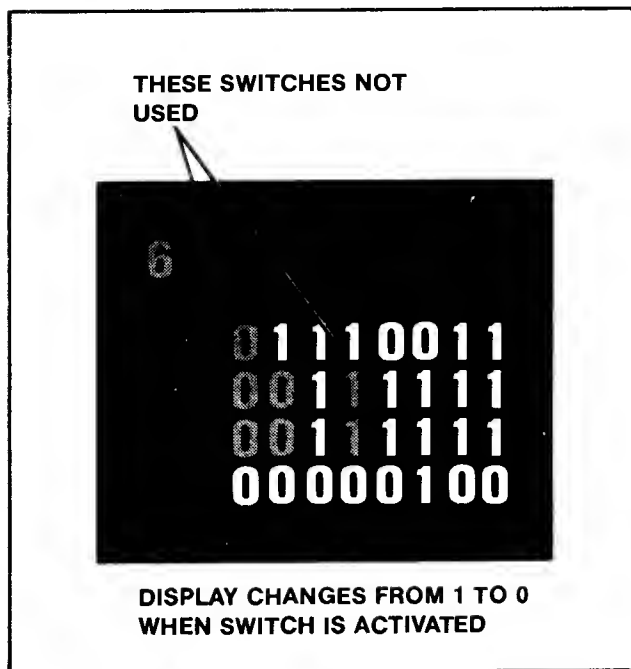

Figure 3-3 Self-Test — Player Input
6. During the Player Input Test Display the game will give a display which looks like that shown in Figure 3-3.